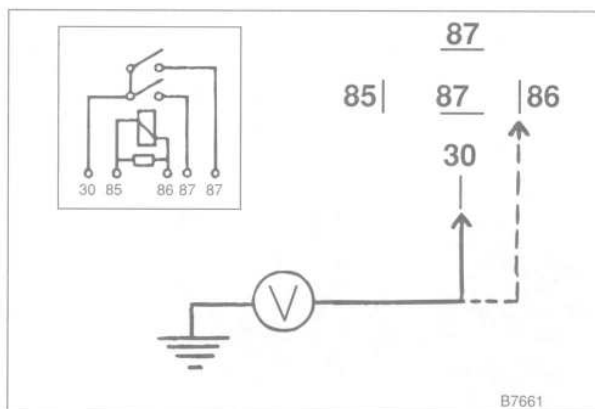

Fig. 5. Voltage checks at system relay terminals 30 and 86.
2. Check for voltage at terminal 30 and terminal 86 of the relay socket. See Fig. 5.